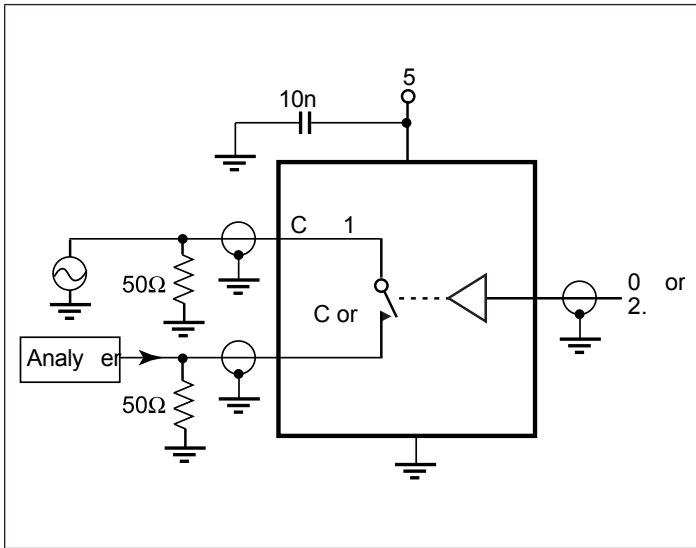

Figure 4. Off Isolation/On-Channel Bandwidth
- Between any two switches. See Figure 4.
- Off Isolation = 20log₁₀ [V_{COM} / (V_{NO} or V_{NC})]. See Figure 4.